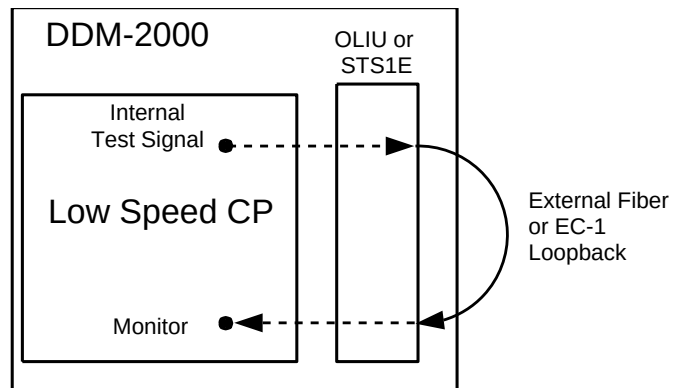

Figure 1. Automated Internal Test of Local Equipment (test-auto:md=local)
2. Install optical loops on all **OLI**s, if not already installed. See Figure 1.
3. If **STS1E** circuit packs are installed, loopback the electrical EC-1 signal at the STSX cross-connect point or at the backplane BNC connectors [**J38-J39** (Group A)] [**J40-J41** (Group B)] [**J42-J43** (Group C)]. See Figure 1.